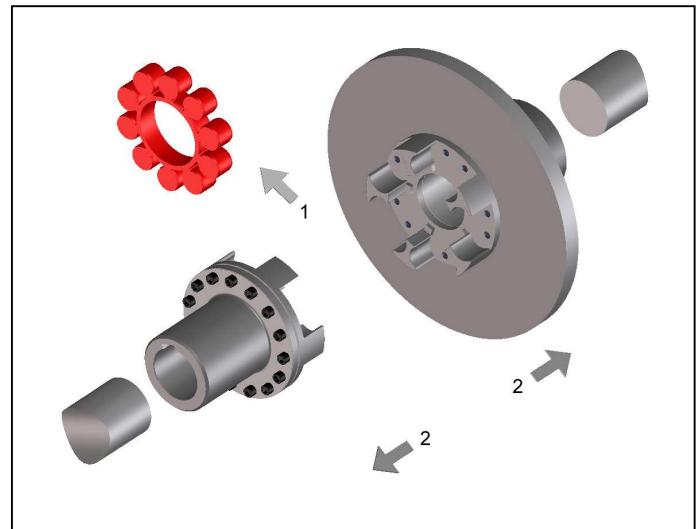

Fig. 4
- Remove the elastic buffer ring (Fig 4, Pos. 1).
- Mount the flange hub complete with the claw rings attached in the proper position on the shaft ends (Fig 4, Pos. 2).